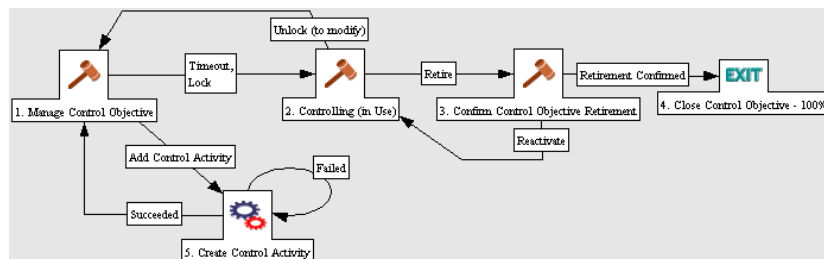

Figure 4-5. Control objective lifecycle
- *Figure 4-5* shows the control objective lifecycle.